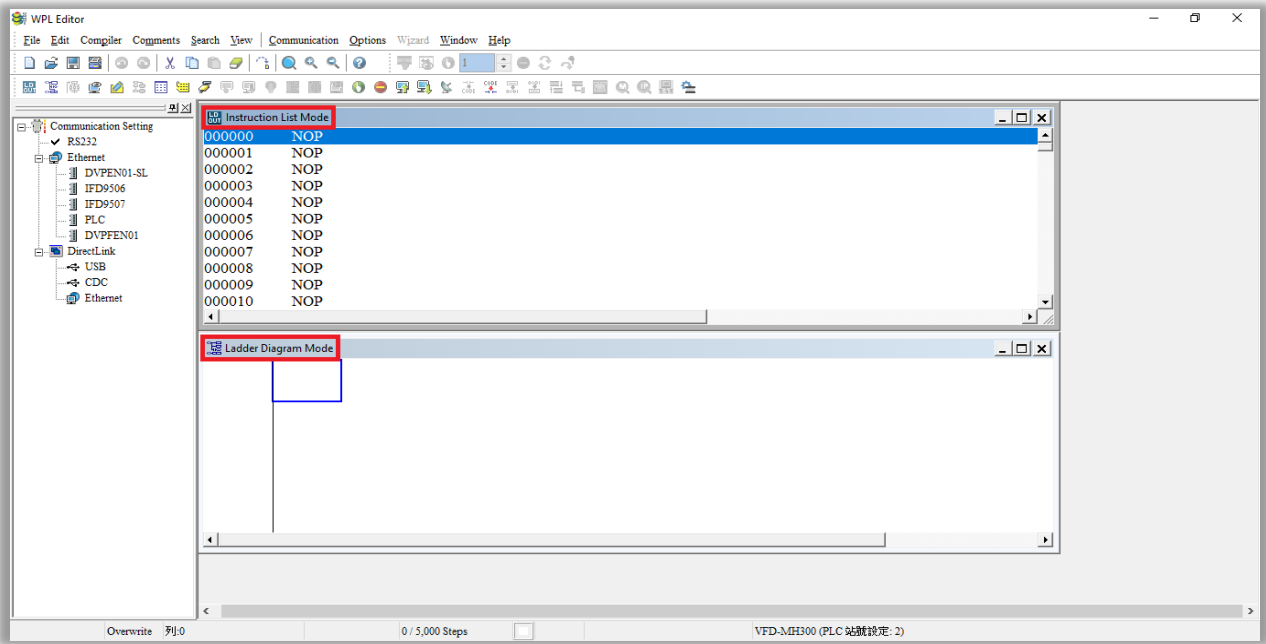

Figure 15-8
1. **Instruction List Mode** and 2. **Ladder Diagram Mode**, as Figure 15-8 shows. Use the method as required.